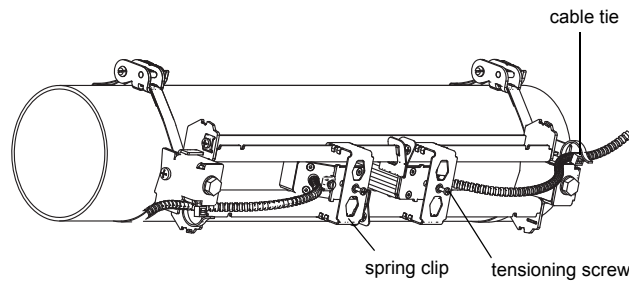

Fig. 9.46: Transducers in the rail
- Slide the spring clips on the transducers (see Fig. 9.46).
- Use a cable tie to fix the transducer cables in order to protect them from mechanical strain (see Fig. 9.46).